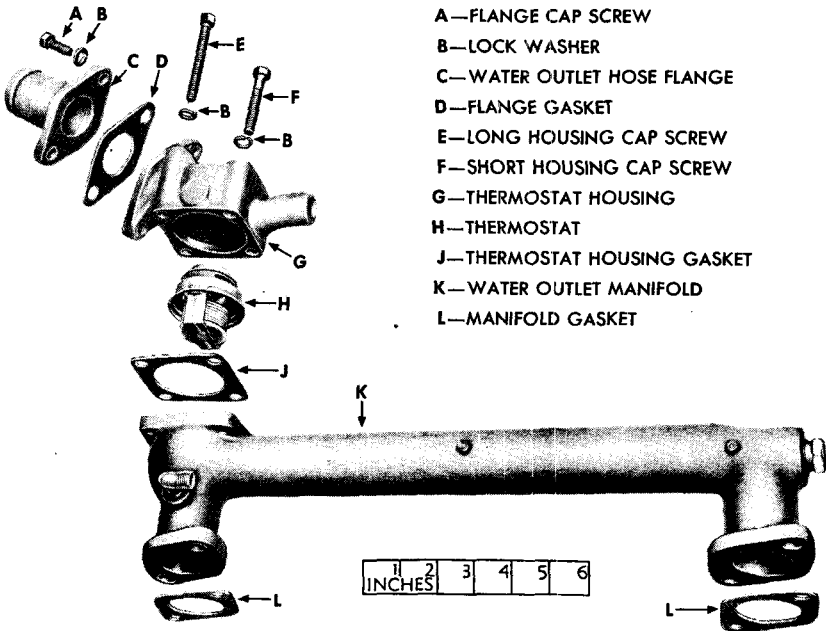

Figure 41 — Thermostat and Related Components RA PD 77911
(1) **DESCRIPTION** (fig. 41). The thermostat is mounted in the front of water outlet manifold at top of cylinder heads. It is an automatic type valve and controls the circulation of coolant to keep temperature of cooling fluid in engine between 157° F. and 183° F.
(2) TABULATED DATA.
b. **Maintenance** (fig. 41). If thermostat does not function properly, place it in a container filled with water. Place thermometer or other satisfactory heat gaging device in water, and heat the water. Thermostat should open. If thermostat does not begin to open within 5° F. of 157° F. and is not fully open within 5° F. of 183° F., replace it.
(1) DISCONNECT BYPASS TUBE FROM THERMOSTAT HOUSING (fig. 41).
(2) DISCONNECT WATER OUTLET HOSE FLANGE FROM THERMOSTAT HOUSING (fig. 41). Remove the two flange cap screws and lock washers. Lift flange and gasket from housing.
(3) DISCONNECT THERMOSTAT HOUSING FROM WATER OUTLET MANIFOLD (fig. 41). Remove the four cap screws and lock washers which secure thermostat housing to manifold. Remove thermostat housing, gasket, and thermostat.
(1) INSTALL THERMOSTAT AND HOUSING (fig. 41). Place thermostat in position with bellows down on water outlet manifold. Use new gasket, and position housing on water outlet manifold. Secure with one four lock washers and cap screws.
(2) CONNECT WATER OUTLET HOSE FLANGE TO THERMOSTAT HOUSING (fig. 41). Position flange gasket and flange on housing. Install the two lock washers and cap screws.
(3) CONNECT BYPASS TUBE TO THERMOSTAT HOUSING (fig. 41).